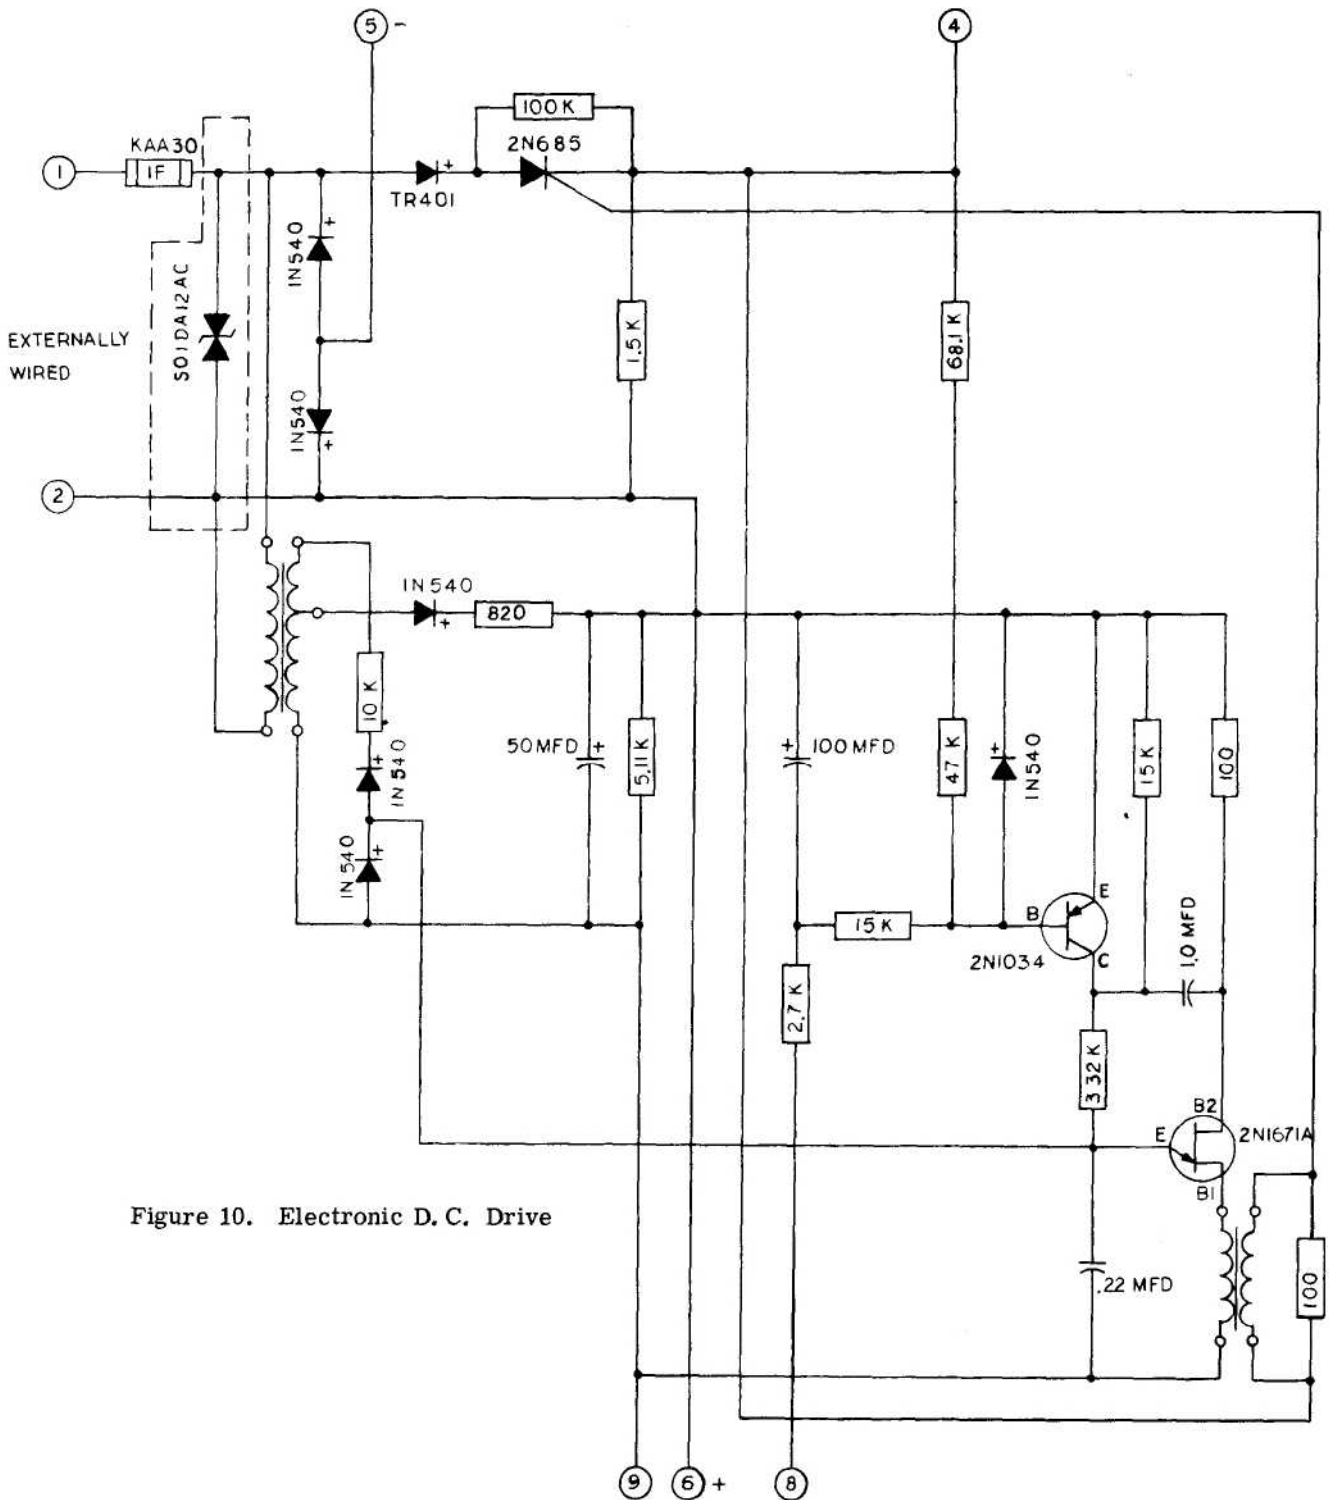

Figure 10. Electronic D. C. Drive
30. ELECTRONIC D. C. DRIVE (figure 10).
The diagram in Figure 10 will give additional information to the electronically oriented technician should he desire to service the control assembly. We recommend that if there is a malfunction in this control that the entire power supply be replaced.